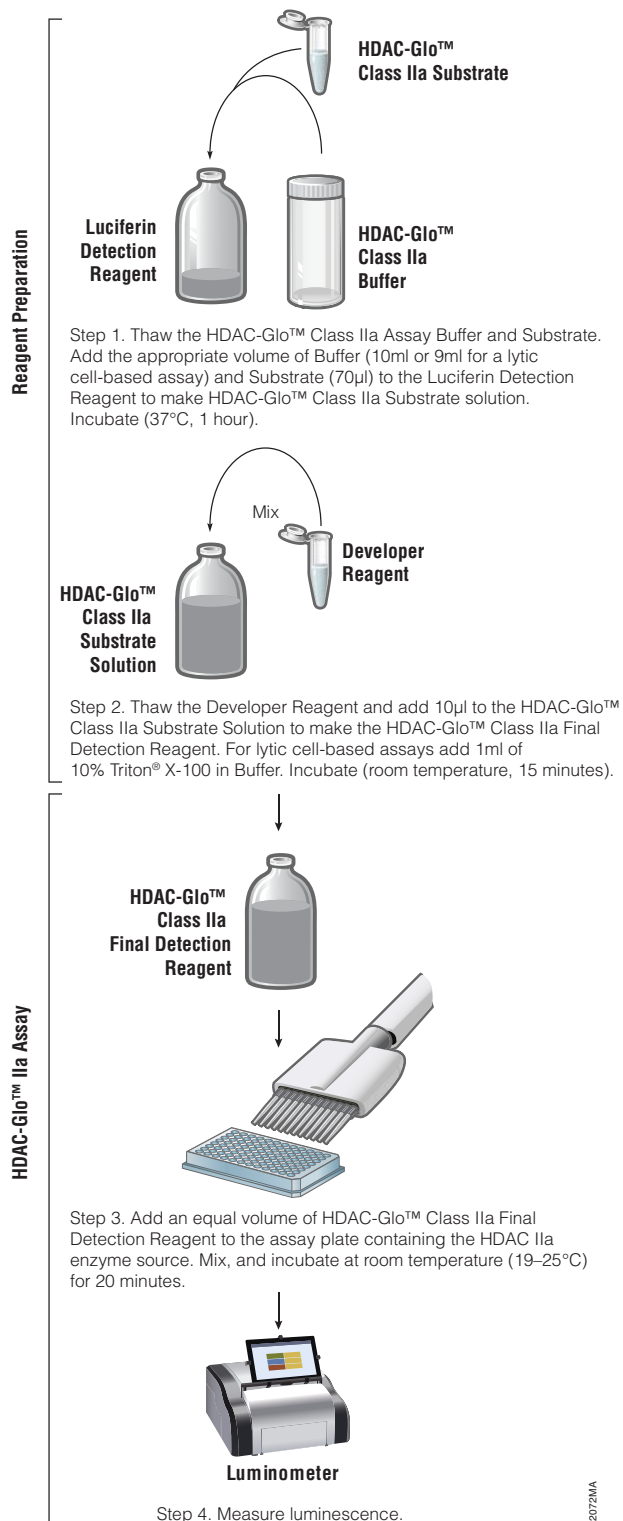

Figure 1. HDAC-Glo™ Class IIa Assay Protocol. See Section 3 of TM407 for a detailed description of reagent preparation.
- Prepare HDAC-Glo™ Class IIa Substrate Solution as instructed in Figure 1, Step 1. During the 1-hour incubation (at 37°C), prepare a compound dilution series in a parallel plate as follows:
- Prepare HDAC-Glo™ Class IIa Final Detection Reagent (see Step 2 of Figure 1). Incubate for 15 minutes at room temperature.
2. Prepare HDAC-Glo™ Class IIa Substrate Solution as instructed in Figure 1, Step 1. During the 1-hour incubation (at 37°C), prepare a compound dilution series in a parallel plate as follows:
7. Prepare HDAC-Glo™ Class IIa Final Detection Reagent (Step 2 of Figure 1).